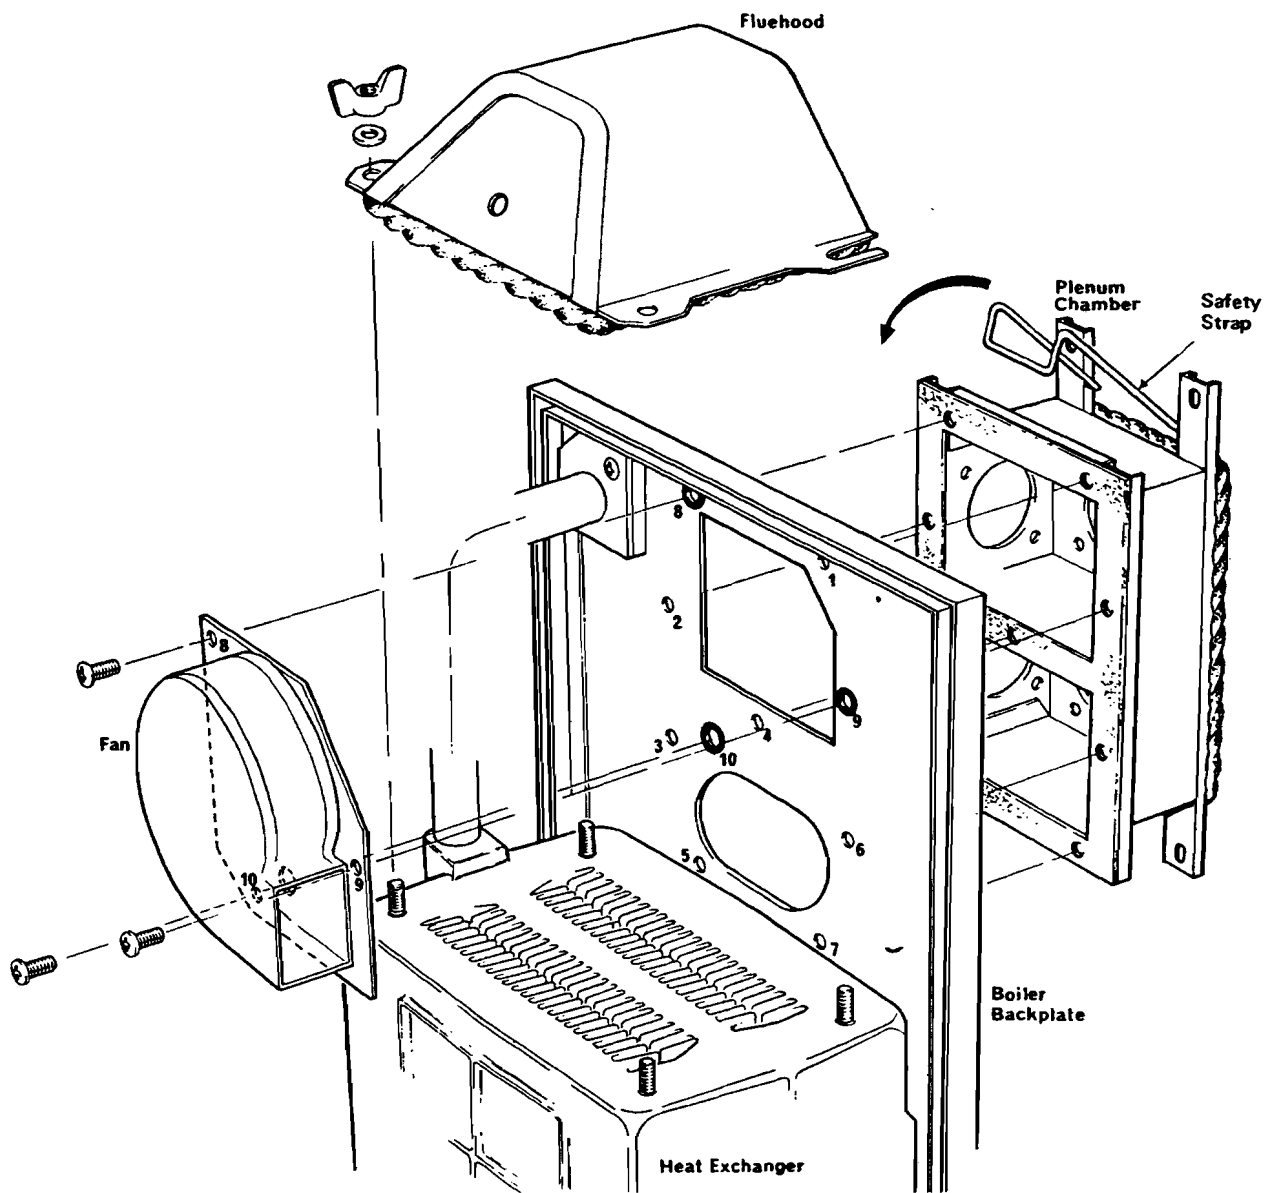

Fig. 9 PLENUM CHAMBER, FLUEHOOD AND FAN ATTACHING PARTS
F. Unscrew and remove the wingnuts securing the fluehood, then lift off the fluehood, see Fig. 9. Discard the paper gasket.
G. Disconnect the three electrical leads from the fan, then unscrew and remove the bolts securing the fan. Lift off the fan, see Fig. 9.
H. Unscrew and remove the bolts securing the plenum chamber, see Fig. 9.
- (2) Connect a suitable length of 15mm pipe to the main gas cock, terminating it above, below or to the side of the boiler in a length which can be easily connected to the main supply, once the boiler is in position on the wall.
5. Fitting the Boiler on the Wall — See Fig. 9
- A. Stand the boiler on the floor in a vertical position, then using the two wooden feet, the cast iron flow pipe and the underside of the heat exchanger, lift the boiler into position on the wall, locating its mounting bracket on the bearing plate in the mounting channel. Support the boiler in this position using the safety strap if necessary, then secure the boiler backplate to the plenum chamber with seven bolts, see bolts numbered 1 to 7 on Fig. 9. Three bolt holes in the boiler backplate are marked with a ring and these are for use when fitting the fan and must not be used in this operation.
- Warning:** (1) Take care not to damage the igniter housing on the back of the boiler, adjacent to the boiler main mounting bracket.
- (2) When fitting the bolts in A, the weight of the boiler could distort the boiler support bracket so making it difficult to line up the bolt holes in the boiler back plate with those in the plenum chamber. If this should occur, the weight of the boiler should be supported until the bolts are correctly engaged.
- B. Fit the fan in position and secure it to the boiler backplate with the three bolts, numbered 8 to 10 on Fig. 9. Connect the two mains electrical leads to their connections on the boiler backplate and the earth lead to the earth screw also on the backplate.